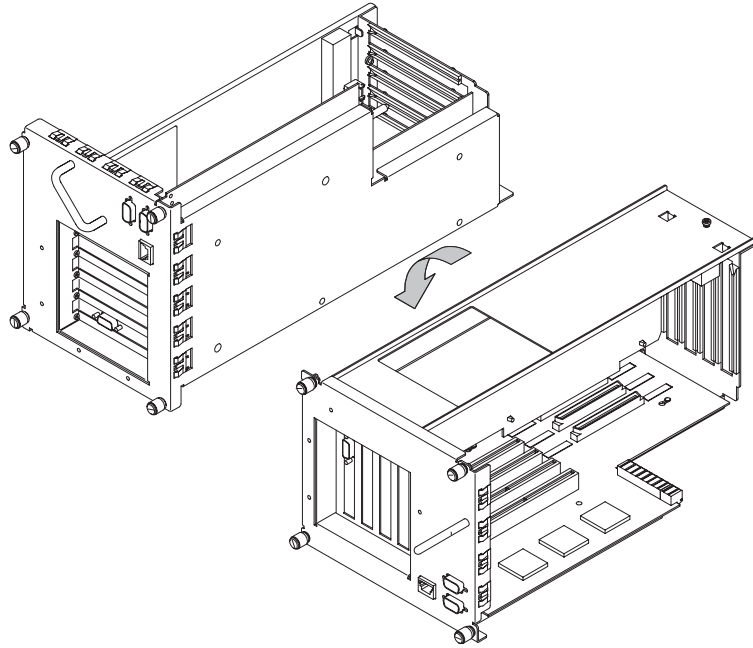

Figure B-42. Rotating the PCI/EISA Assembly Back
9. Rotate the unit back 90 degrees as shown in Figure B-42 and grasp the handle.